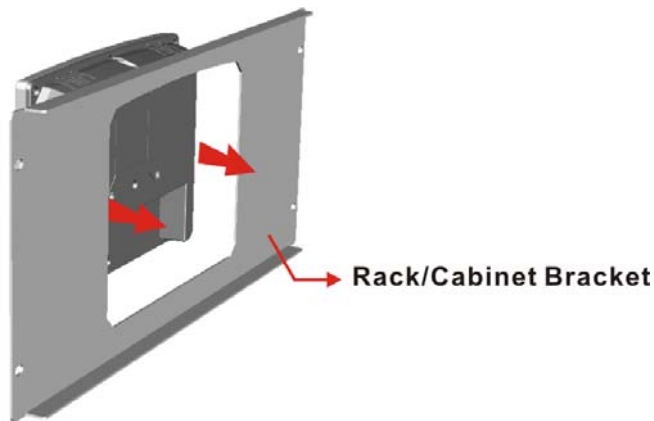

Figure 3-19: The Rack/Cabinet Bracket
- Step 9:** Slide the rear chassis of the AFL2-W15B-H61 flat bezel panel PC through the rack/cabinet bracket until the aluminum frame is flush against the front of the bracket (**Figure 3-19**).